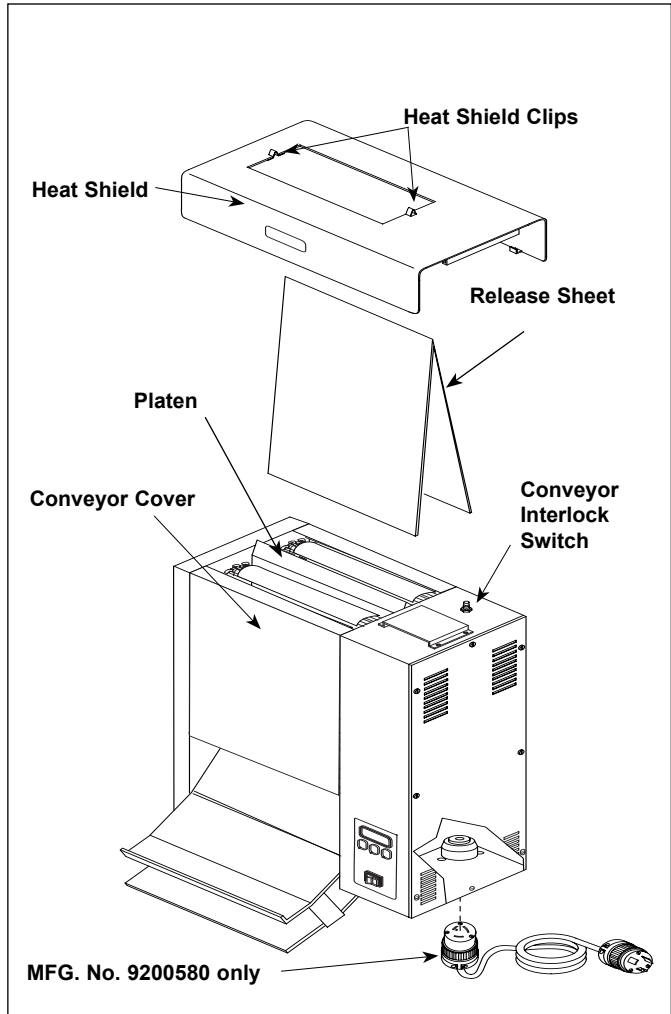

Figure 3. Installing Release Sheet
4. Install the release sheet by draping it over both sides of the platen surface. The crease should be centered directly on top of the platen (Figure 3).
5. Install the heat shield. The heat shield clips fit over the top of the platen securing the release sheet (Figure 3).
**IMPORTANT:** Make sure heat shield assy. is activating (depressing) the conveyor interlock switch (see Figure 3). The conveyors will not rotate unless the heat shield is in place and interlock switch is activated (depressed).
10. Install bun chute so hooks are installed over the lower rear yellow support rod. Install the heat shield aligning clips over platen (Figure 3).